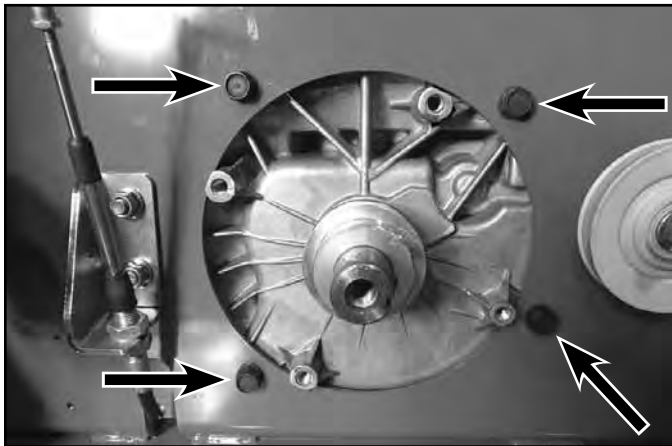

Fig. 137
4. Remove the four engine mounting bolts (Fig. 137).